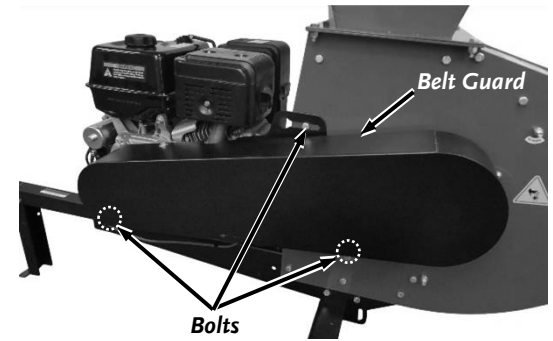

Figure 40
2. Remove the three Bolts supporting the Belt Guard using a 3/8" Wrench (**Figure 40**). Remove the Belt Guard and set aside.
28. Reinstall the Belt Guard (**Figure 40**).